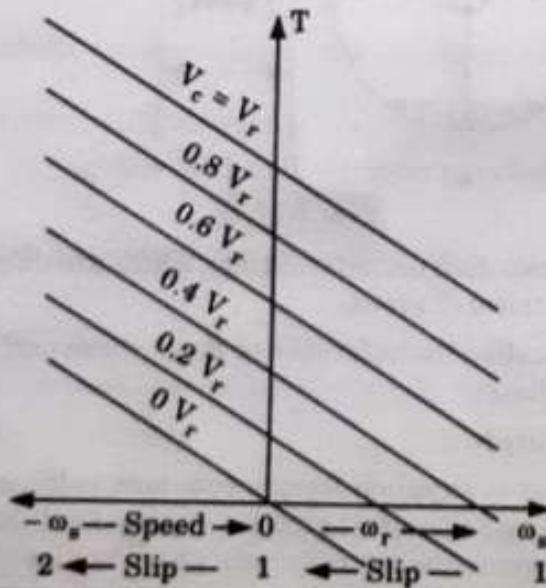

Fig. 1.15.1. Torque-speed characteristics of 2φ AC servomotor.
2. The torque-speed characteristics for various control voltages are almost linear as shown in Fig. 1.15.1.